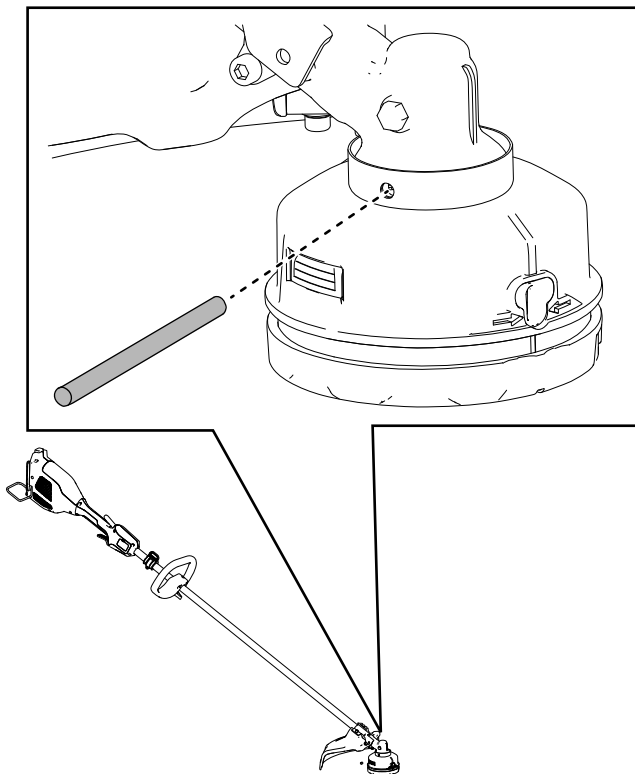

Figure 16
2. Align the hole in the cup plate with the hole in the trimmer gearcase (Figure 16).
3. Insert the included metal rod through the cup plate and into the hole in the trimmer gearcase to secure the trimmer head (Figure 16).